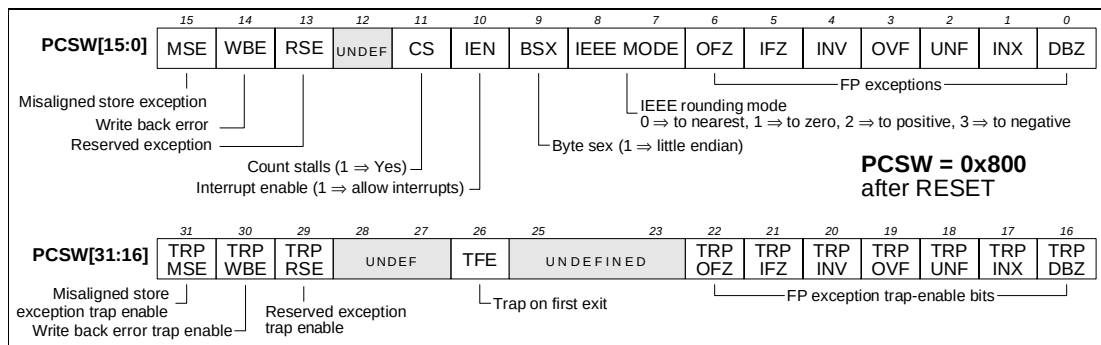

**Figure 3-2. PNX1300 PCSW (Program Control and Status Word) register format.**
**Figure 3-2** shows the PCSW register. The PNX1300 value of PCSW on reset is 0x800. For compatibility, any undefined PCSW fields should never be modified.